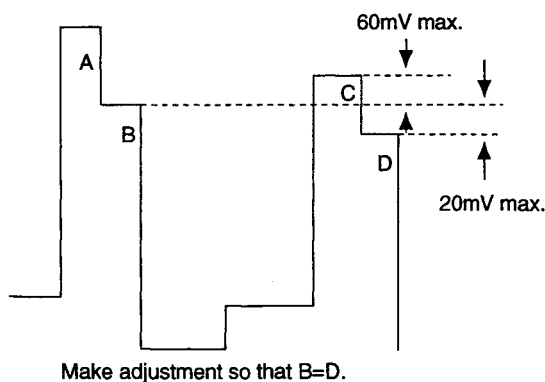

Fig. 5-20
- 2) Connect the probe of an oscilloscope to IC404 ④⑩PIN or TP401.
- 4) Adjust **R-Y LEVEL PAL** so that the peaks of waveforms will be flush with each other as shown Fig.5-20.